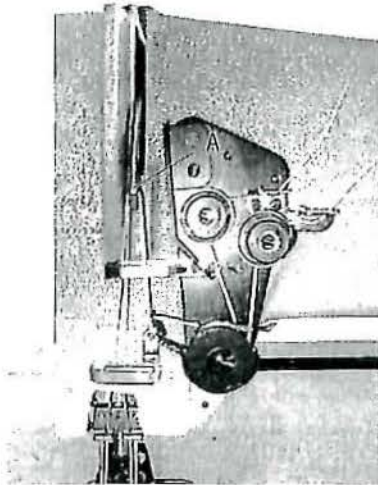

Fig.31
- 1) For more controller action on the thread, loosen the set screw (1) at the right of the controller and set the stop lever, and for less action set the stop higher.
- 2) To strengthen the action of the controller spring on the thread, loosen the spring stud screw (4) at the rear of the stop screw and turn the spring stud (5) slightly to the left with a screwdriver, or lighten its action turn to the right and securely retighten the spring stud screw.
21. REPLACEMENT OF THE CONNECTION BELT (Figs. 31, 32, 33 & 34)
- 1) when the connection belt removed from the pulley for adjusting and or replacing purposes of the parts, it should be replaced by the processes, as followings: (Figs. 31 & 32)